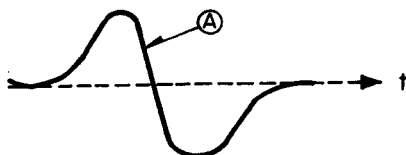

Fig. 7-6 S curve
- Output voltage (21) changes as negative → positive at this time.
- Further, the S curve of focus changes as shown in Fig. 7-6.
Focus servo is applied with point (A) shown in Fig. 7-6 as the actuation point. In general, the time when focus search is made and the focus servo switch is ON during passage through point (A). Furthermore, ANDing is made with focus OK signal (FOK) in order to prevent maloperation.